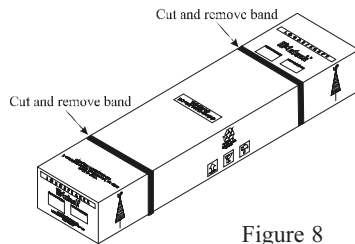

Figure 8
1. Remove the banding material from the shipping carton. Refer to figure 8.